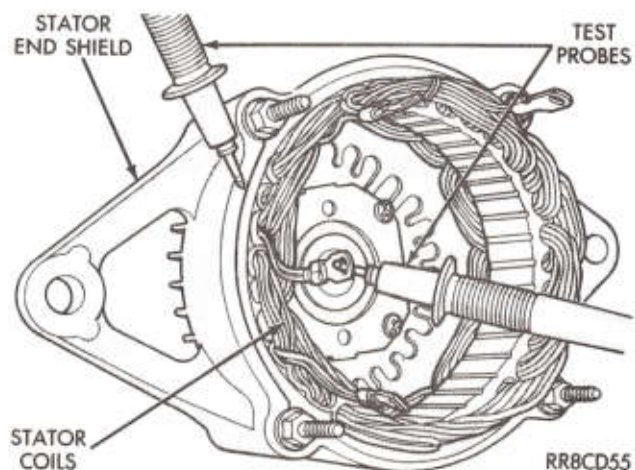

Fig. 13—Test Stator Circuit for Ground
(1) Using an ohmmeter, test for continuity from the stator leads (4) to the stator end shield, it should test open (Fig. 13).